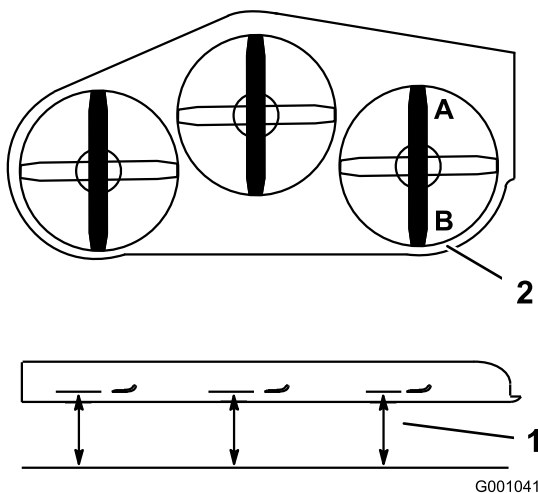

Figure 69
- Position the **right** blade front-to-rear (Figure 69).
- Measure the right blade at the **A** location, from a level surface to the cutting edge of the blade tip (Figure 69).
- The mower blade should be a 1/4 to 3/8 inch (6 to 10 mm) lower at position **A** than at position **B** (Figure 69). If it is not correct, proceed to the following steps.